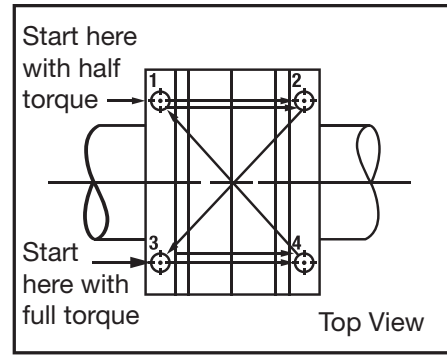

Figure 1
**NOTE: This sequence forms a “z” pattern. See Figure 1.**
Again tap down the inner ring evenly on the circumference and tighten all four screws to the full torque, starting with screw No. 3 and going to No. 4, No. 1 and No. 2. See Figure 1.